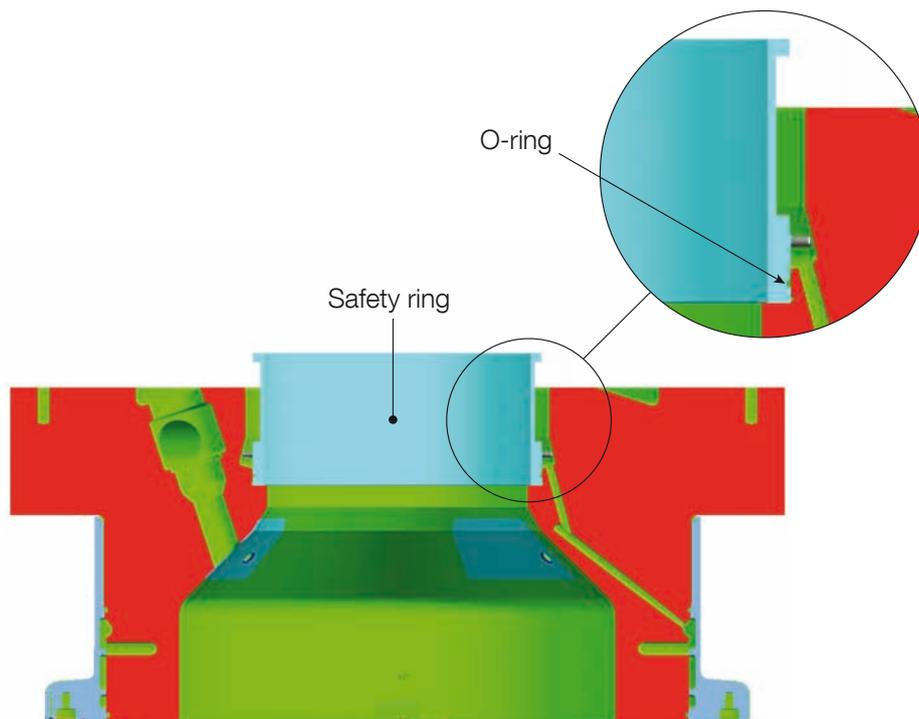

Fig. 1: Safety ring mounted in exhaust valve hole
1. Mount the safety ring in the exhaust valve hole of the cylinder cover, thereby eliminating the risk of hot cooling water potentially entering the cylinder liner, see Fig. 1.